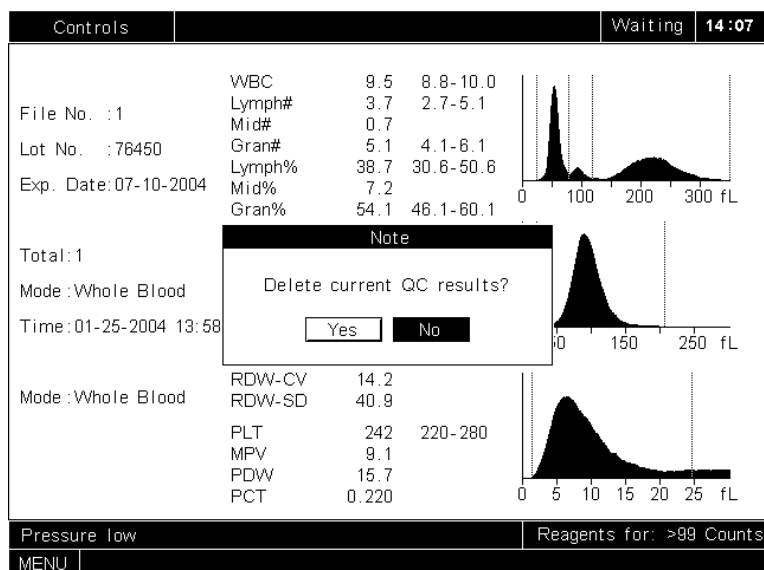

Figure 4-3 Dialog Box to Confirm the Deletion
1. Press [DEL] to enter the dialog box shown in Figure 4-3.